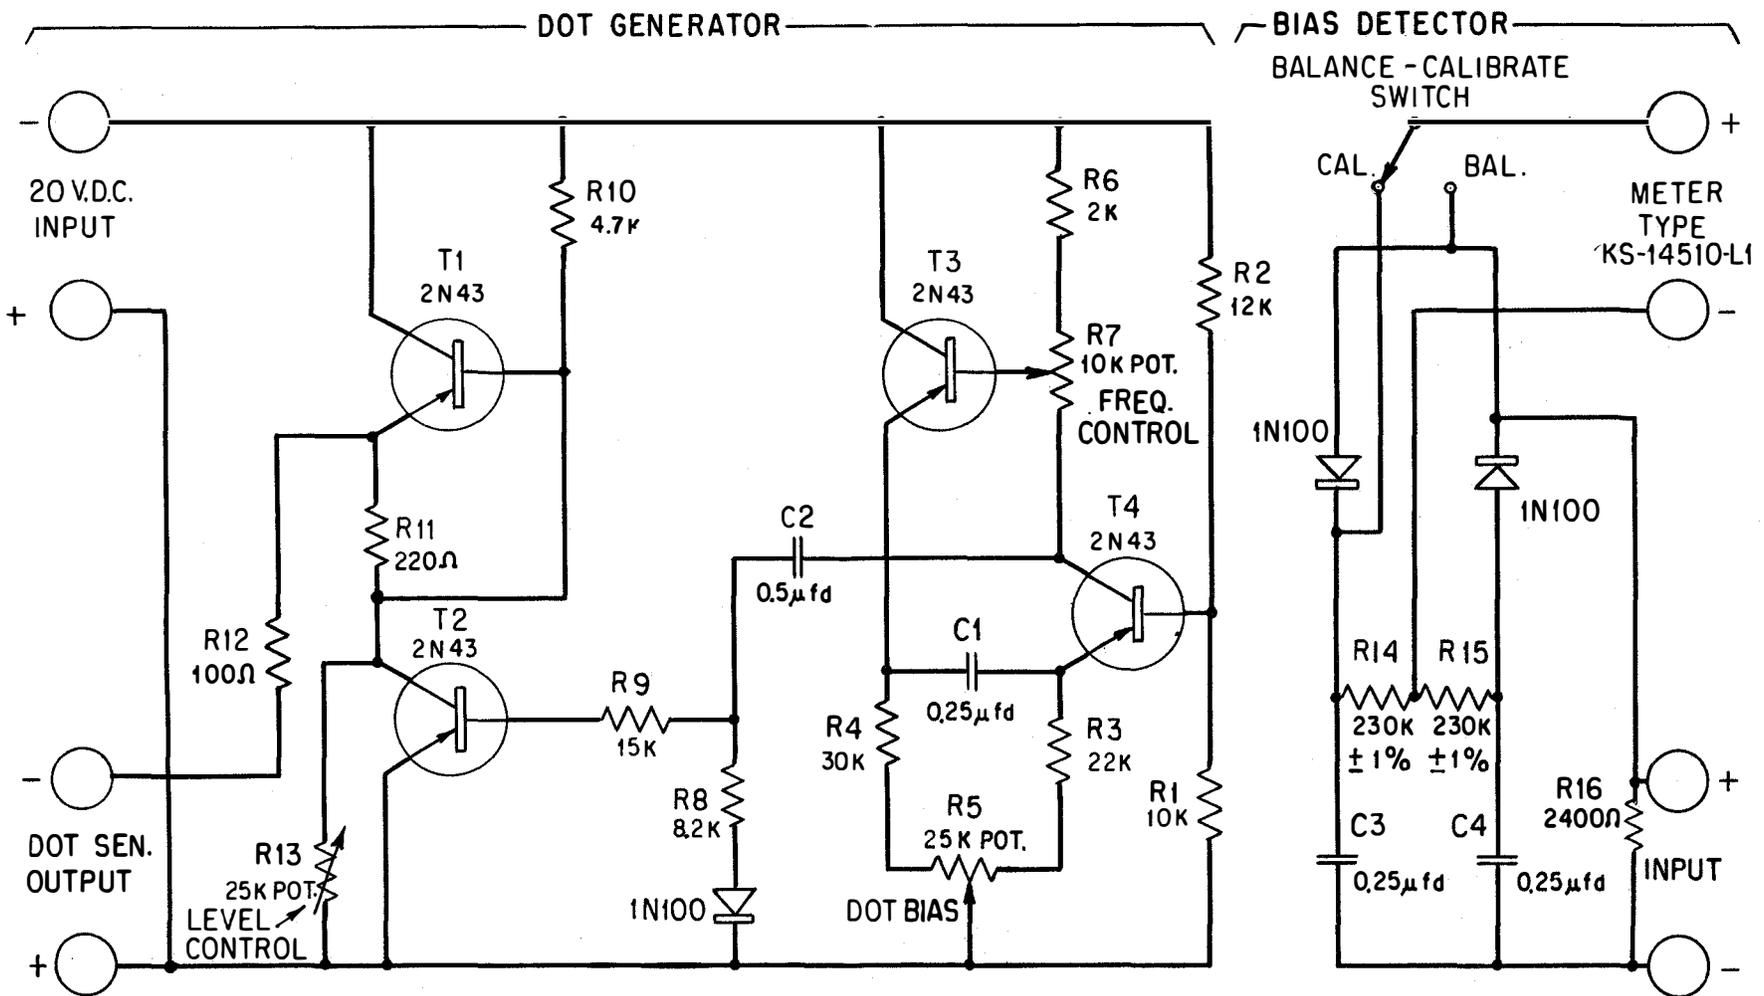

Fig. 2 — Dot Test Set
**2.01** Fig. 2 is a schematic diagram of the test set. The left-hand portion of the circuit is the square wave generator and the right-hand portion is the bias detector.
**(A) Dot Generator**